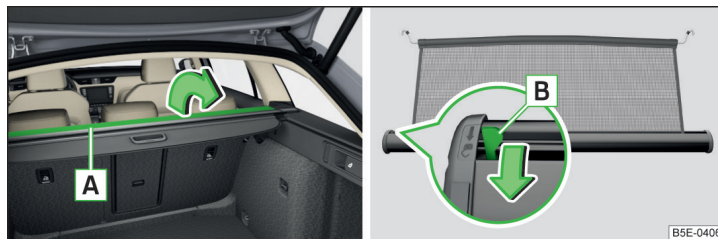

Fig. 129 Open part of the roll-up luggage compartment cover / release lever
- Fold out part [A] of the roll-up luggage compartment cover in the direction of arrow » Fig. 129.
- Fold back part [A] of the roll-up luggage compartment cover in the opposite direction of the arrow » Fig. 129.
If the net partition blocks when pulling it out, push the release lever [B] in the direction of the arrow » Fig. 129.